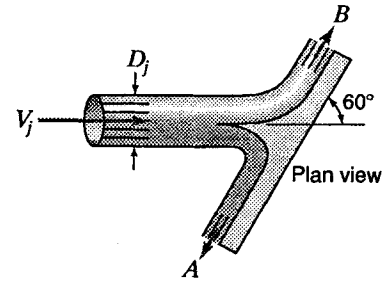

Figure P6.15
6.16 Refer to Fig. P6.15. Assuming ideal flow in a horizontal plane, calculate the magnitude and direction of the resultant force on the stationary blade. Note that the jet ( $V_j = 12$  m/s,  $D_j = 150$  mm) is divided by the splitter so that one-third of the water is diverted toward A.